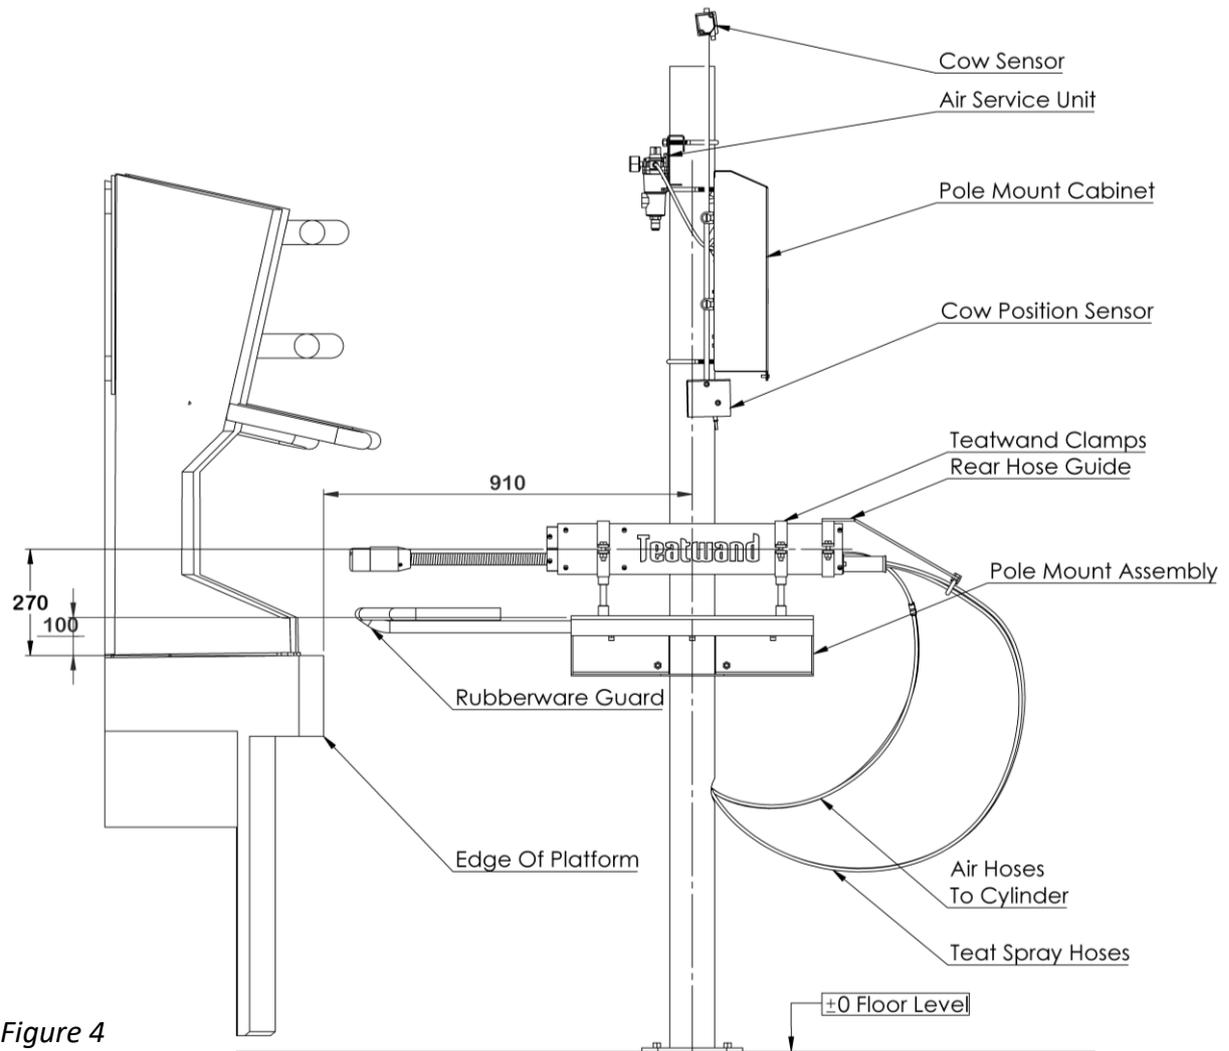

Figure 4
- Use the U Bolts supplied to fit the backplate towards the top of the pole. See Figure 4